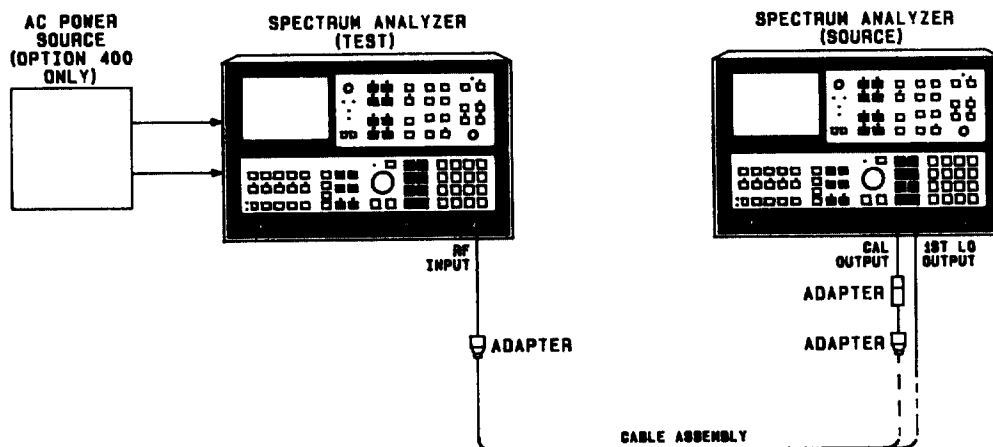

FIGURE 24. LINE-RELATED SIDEBANDS TEST SETUP
- Connect CAL OUTPUT of source analyzer to RF INPUT of analyzer under test as shown in Figure 24.
11. Connect 1ST LO OUTPUT of source analyzer to RF INPUT of analyzer under test as shown in Figure 24.